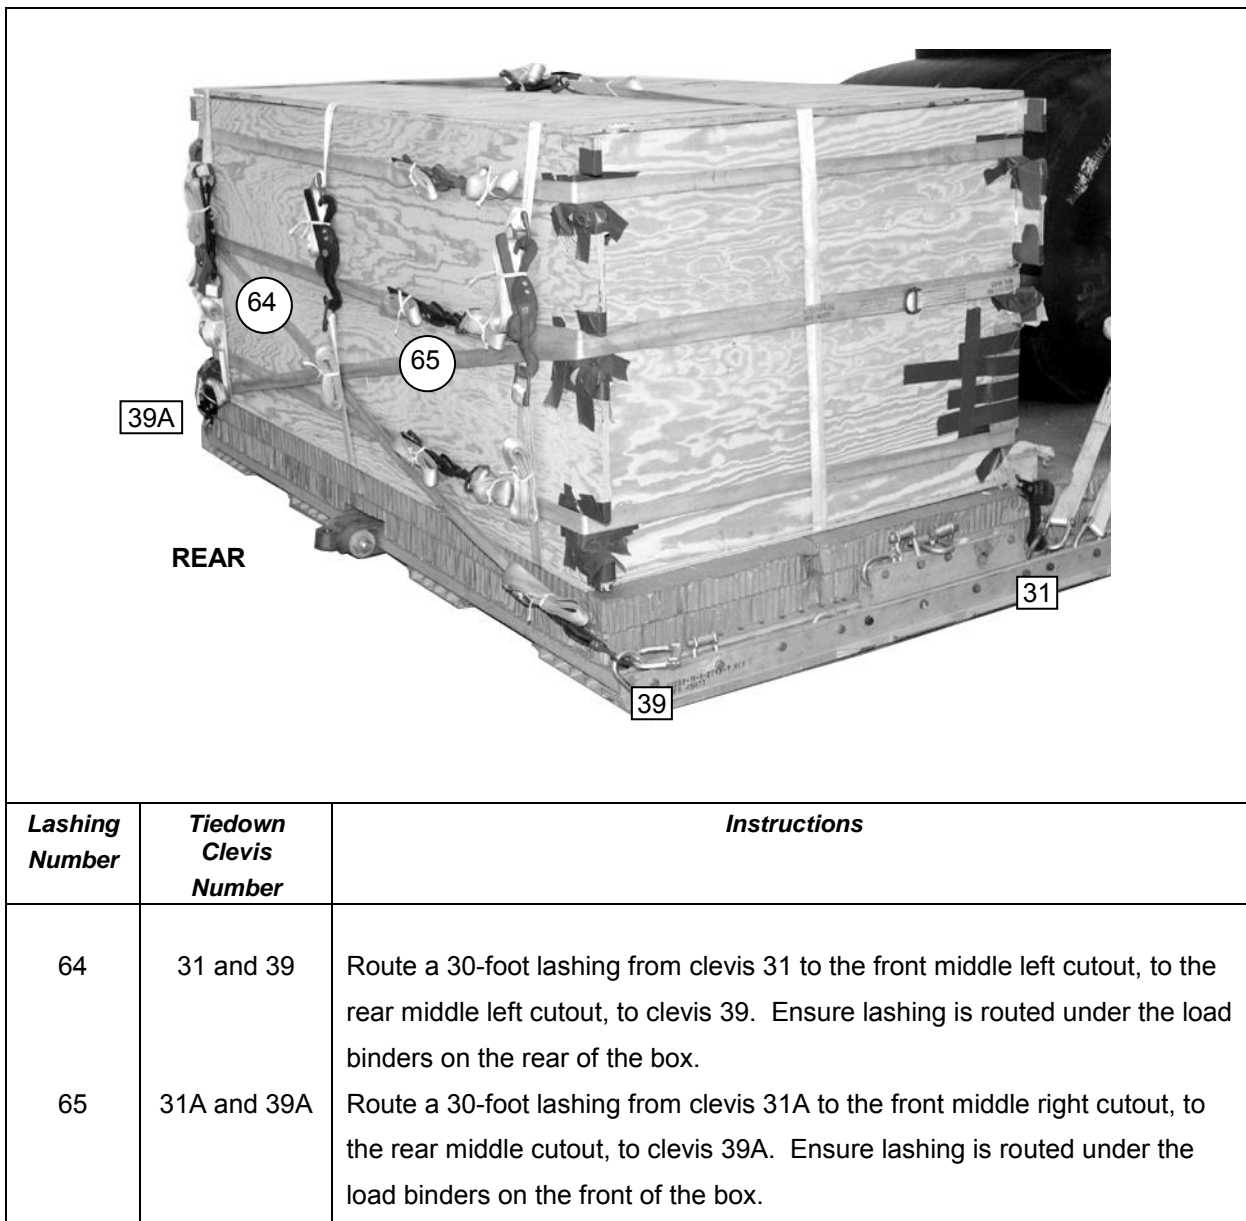

Figure 23-26. Lashings 62 and 63 Installed
- Lash the rear equipment box to the platform as shown in Figures 23-26 through 23-28.